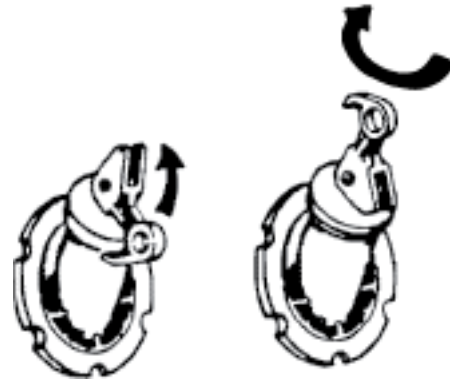

Figure 1. Release Internal Pressure
2. Using a shotgun type switchstick or hookstick, hook the eye of the Bay-O-Net Assembly and pull upward and outward (refer to Figure 1) to release the locking mechanism. Rotate the assembly 180° clockwise with the fuse still in place. The locking hook should be pointing upward. Pause to be sure all internal pressure has been relieved.